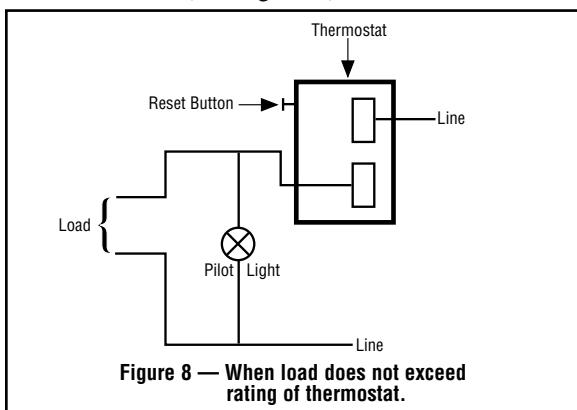

Figure 8 — When load does not exceed rating of thermostat.
- Connect wires according to wiring diagrams (Figures 8 and 9). **Note:** Electrical connections should be made with generous loops of wire — approximately 6" per lead.